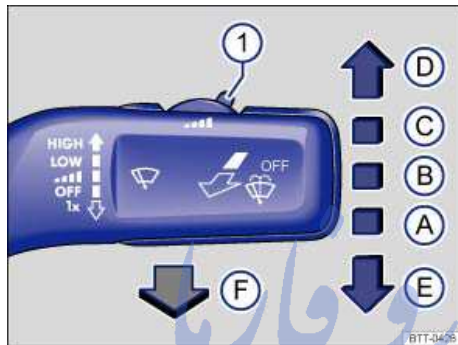

Fig. 78 Operating the front windshield wipers.
- Press the windshield wiper lever down briefly ⇒ fig. 78 (E) when the ignition is off.
Carefully fold the wiper arms back onto the windshield before driving! Switch the ignition on and press the windshield wiper lever down briefly ⇒ fig. 78 (E). The wiper arms move back to their original position.